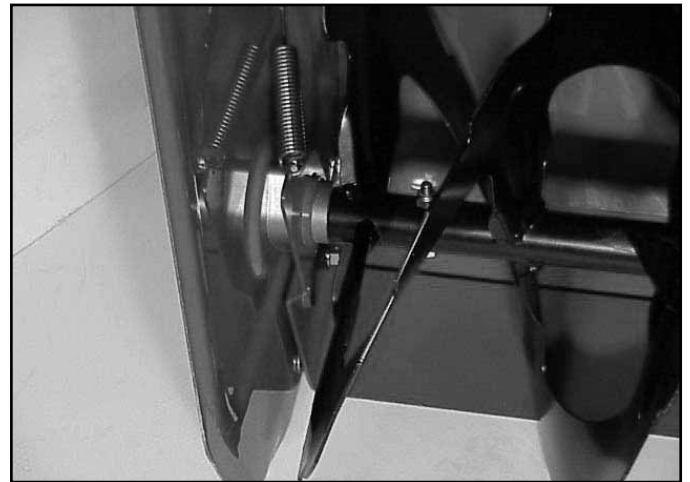

Fig 082
10. Disconnect the spring on both ends of the pivoting scraper (Fig. 082).